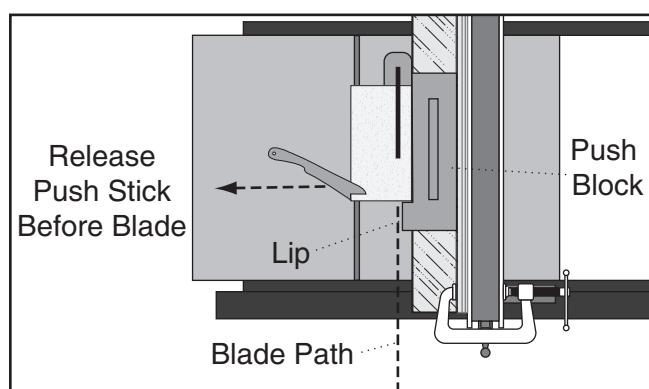

Figure 94. Ripping with push block.
6. Guide workpiece rest of way through cut with push block, as shown in **Figure 94**.